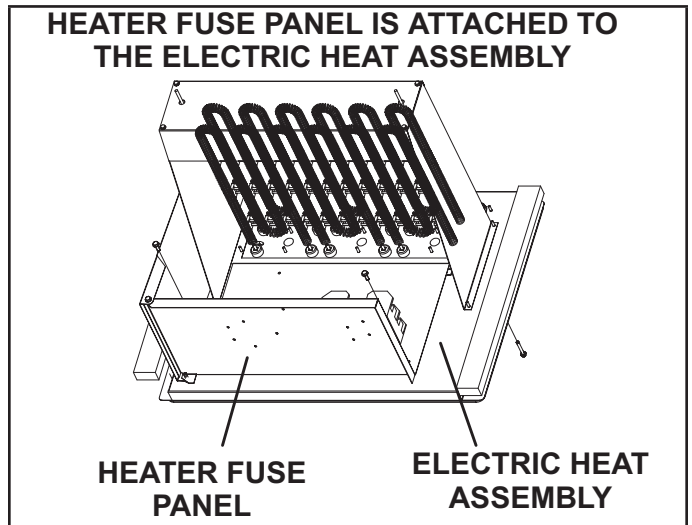

FIGURE 3
- 4 - Remove heater fuse panel from the back side of the electric heat assembly. See FIGURE 3.